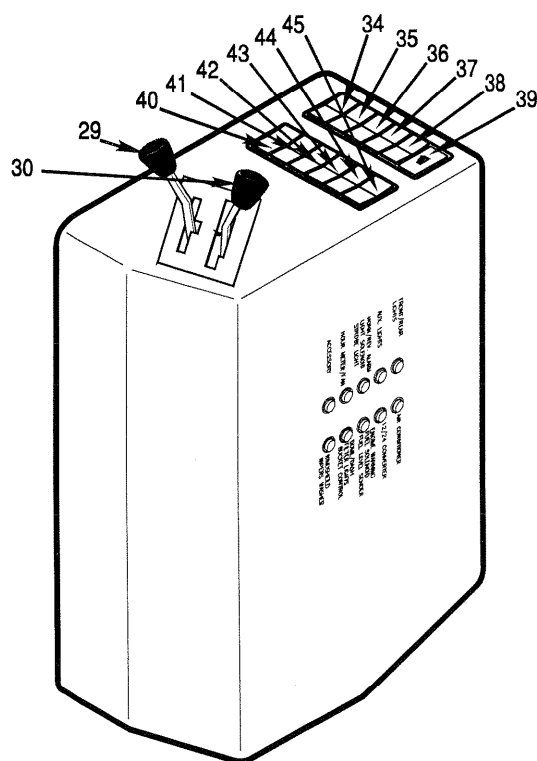

Fig. 3-12 LH Console
29. Transmission Direction Control See Fig. 3-12
30. Transmission Range Control See Fig. 3-12